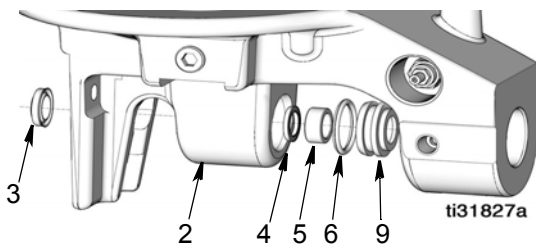
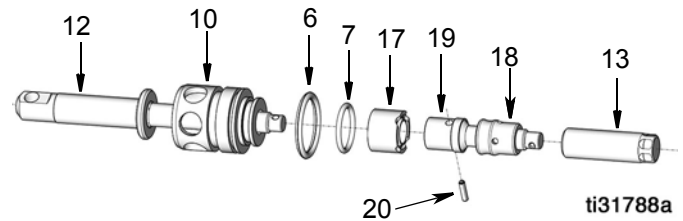

FIG. 19
FIG. 20
6. Remove pump cylinder (11) and piston rod assembly from pump base (2) casting.
7. Inspect H-wiper seal (3) for damage and wear. If it is damaged and/or worn, remove it from pump base (2) (FIG. 19).
8. Remove seal retainer (9) from pump base (2). Remove u-cup seal (4), o-ring (6) and bearing (5) from seal retainer (FIG. 19).
9. Separate the piston rod assembly from pump cylinder (11).
10. Remove the spring pin (20) securing the piston rod (19) to the shovel rod (12). Unscrew the piston rod to separate it from the shovel rod (FIG. 20).